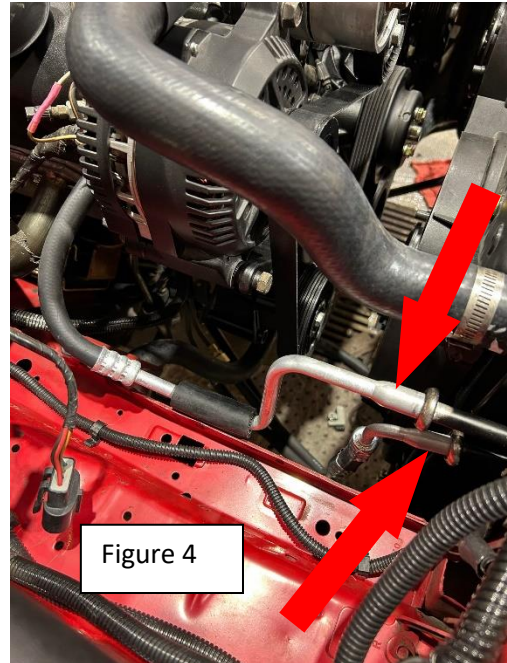
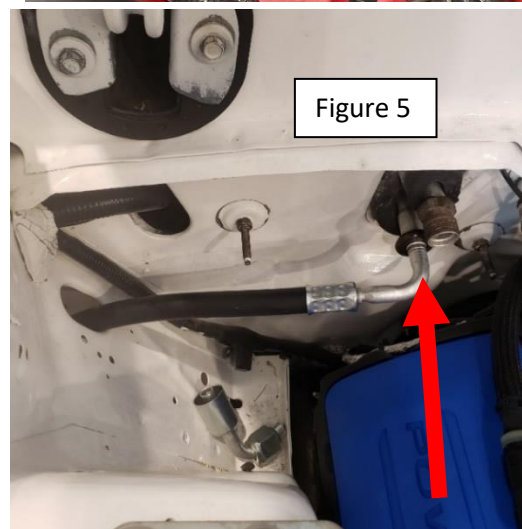

Figure 4
Figure 5
- Connect the factory hose (contains high side service port) to the smaller threaded fitting on the compressor. Connect opposite end to the top fitting on the condenser, push in until the springlock connection clicks (Figure 4).
- Connect small hose with size 6 markings with two 90-degree fittings in close succession to the bottom fitting on the condenser (Figure 4). Route the rest of line under frame rail and up as if the plastic fender liner were still installed and through the fender behind strut tower and connect to spring lock fitting on firewall for the evaporator (Figure 5). **Make sure fitting for the silver inline orifice tube fittings are tight. I ship them loose; they need a final torque.**